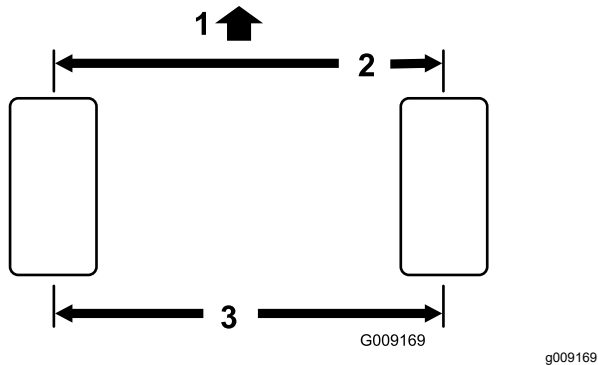

Figure 82
2. Measure the center-to-center distance (at axle height) at the front and rear of the steering tires (Figure 82).